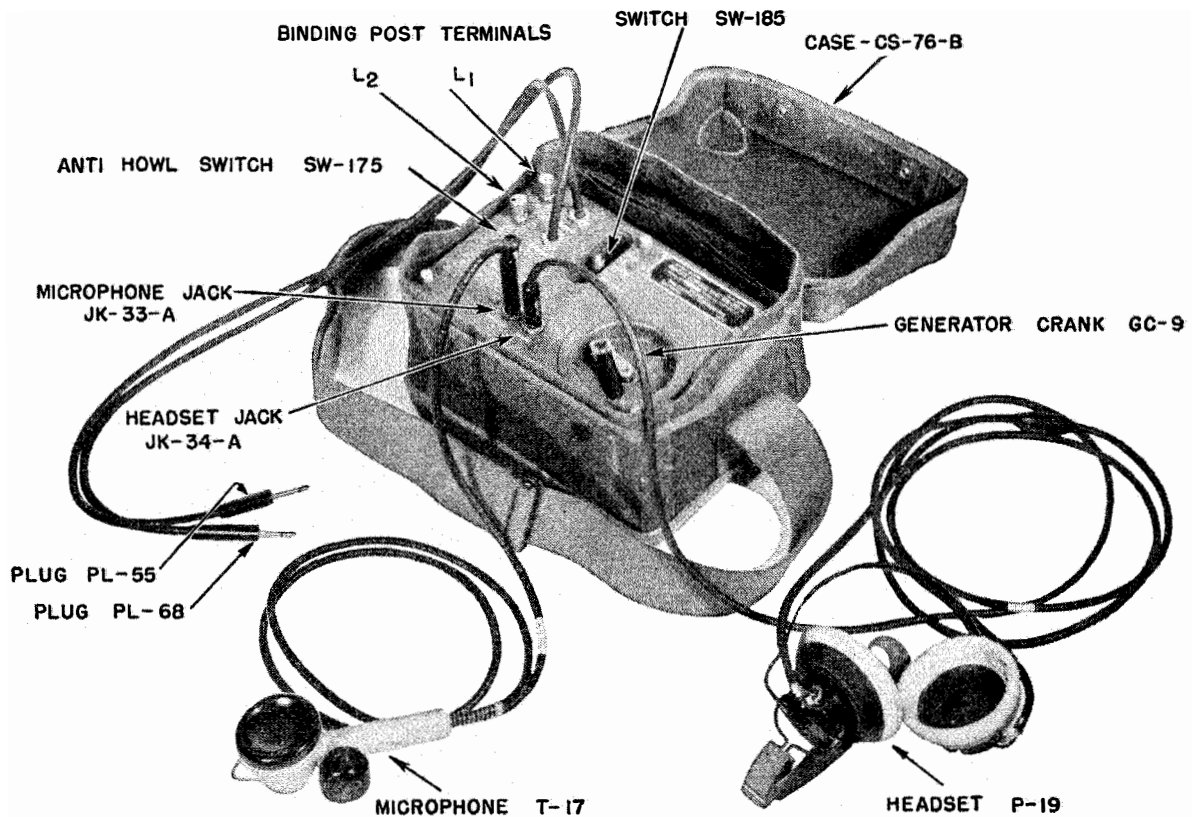

FIG. 5. REMOTE CONTROL RM-29-(\*)
i. *Remote Control Unit RM-29-(\*):*— (FIG. 5)